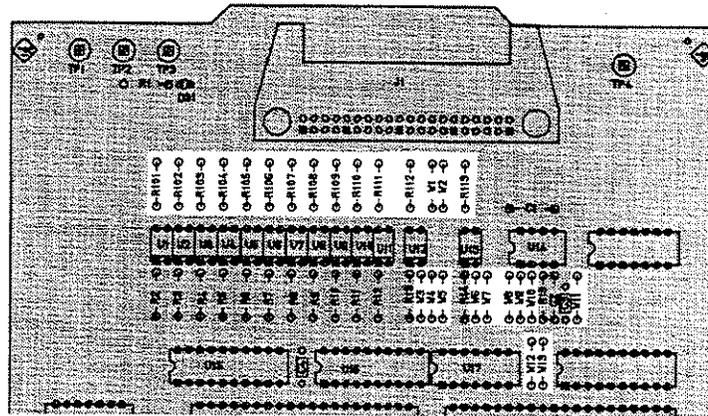

Figure 10-17. Jumper Settings
7. Connect the handler interface connector on the HP 4284A's rear panel with the handler simulator as shown in Figure 10-17.